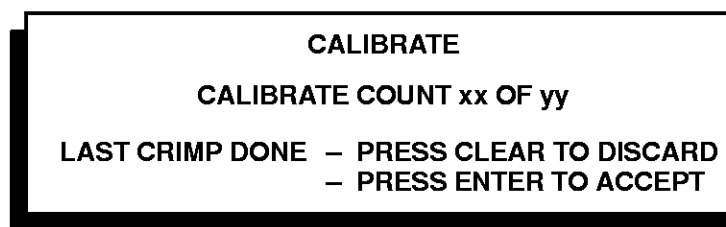

Figure 2-3. CALIBRATE COUNT (LAST CRIMP DONE) Screen
4. Press **ENTER** to accept the last crimp (Figure 2-3), CLEAR to cause the monitor to wait for another crimp, or RETURN to exit the calibrate mode.